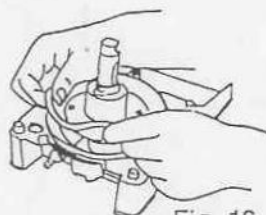

Fig. 16
7. Now the unit (7): pump rod, diaphragm plates, diaphragms and lower bearing can be released (fig. 16).